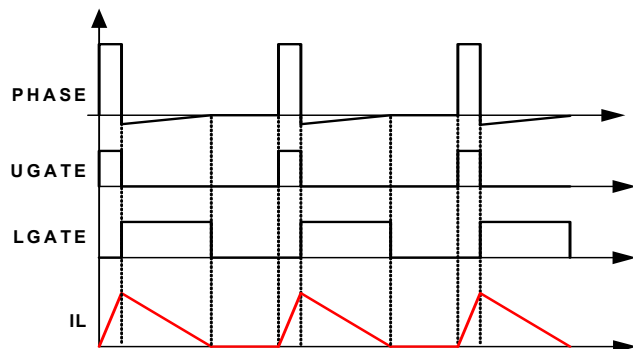

FIGURE 11. DIODE EMULATION
The ISL6277A can operate in Diode Emulation (DE) mode to improve light-load efficiency. In DE mode, the low-side MOSFET conducts when the current is flowing from source-to-drain and does not allow reverse current, thus emulating a diode. As Figure 11 shows, when LGATE is on, the low-side MOSFET carries current, creating negative voltage on the phase node due to the voltage drop across the on-resistance. The ISL6277A monitors the current by monitoring the phase node voltage. It turns off LGATE when the phase node voltage reaches zero to prevent the inductor current from reversing the direction and creating unnecessary power loss.
If the load current is light enough, as Figure 11 shows, the inductor current reaches and stays at zero before the next phase node pulse, and the regulator is in discontinuous conduction mode (DCM). If the load current is heavy enough, the inductor